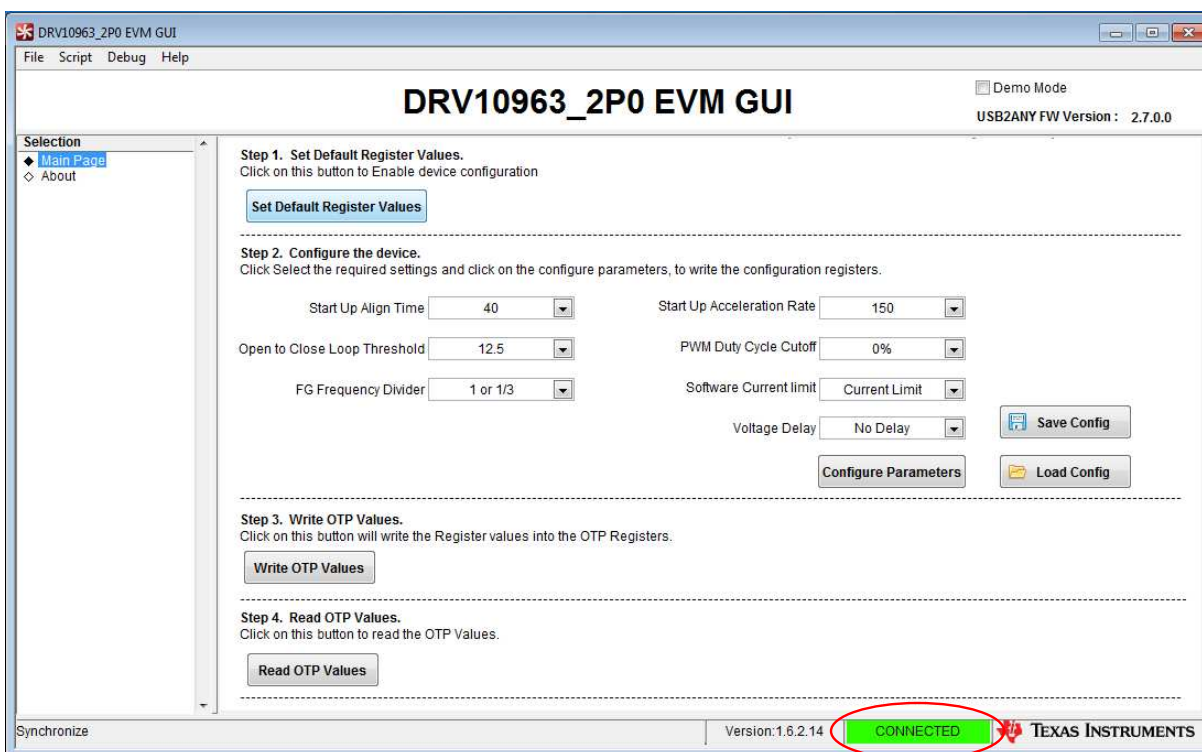

Figure 5. GUI Screen With Successful I2C Interface
2. If "Demo Mode" is not select previously, the screen shown in Figure 5 appears as soon as the GUI launches. The "CONNECTED" block should turn green indicating that the GUI is successfully connected to USB2ANY.